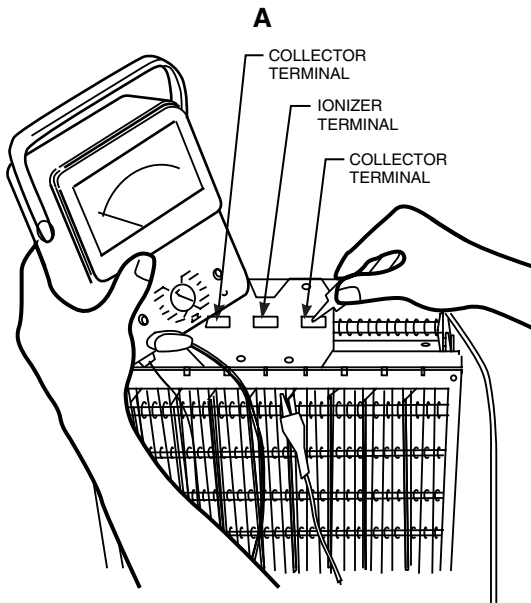

Fig. 20. Checking cells for short circuits.
3. Check the cell for short circuits using an ohmmeter. See Fig. 20. Check the resistance between the frame of the cell and both the ionizer and the collector contacts. In each case, the resistance should be infinite.